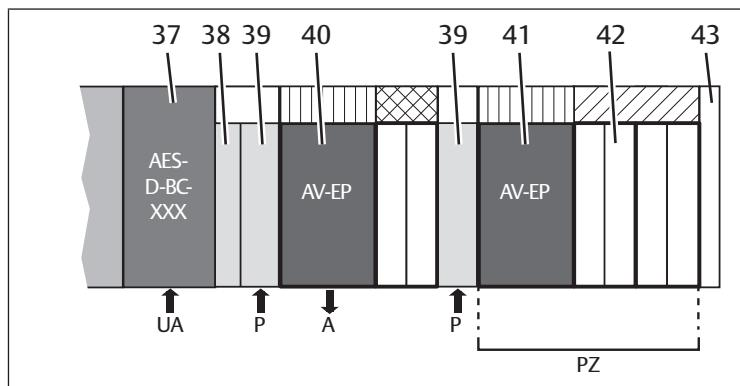

Fig. 12: Example configuration
Fig. 12 shows an example configuration for an AV valve system with AES bus coupler.
- With a pneumatic supply plate (39), make sure that an additional supply or exhaust air connection is available.
- Place the AV-EP pressure regulator directly adjacent to the directional valves (42) to be supplied. The AV-EP pressure regulator is located on the side facing the AES bus coupler (37) (see Fig. 12, pressure zone PZ).
To achieve the maximum flow of the AV-EP pressure regulator, we recommend a pneumatic supply plate (39) upstream of the pressure regulator (see example configuration in Fig. 12).
- Position the single pressure control (40) between the AES bus coupler (37) and the pressure zone control (41), see example configuration in Fig. 12.